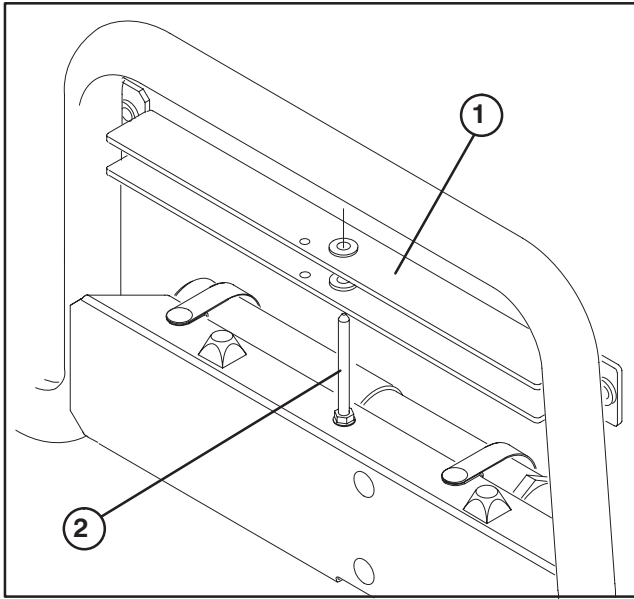

Figure 7
B. Remove bed support from storage stud on top of back rest support channel on Workman (Fig. 7).